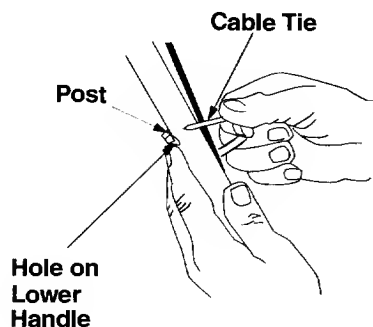

Figure 4
- Insert post on cable ties into holes provided on the lower handle. Pull the cable tie tight and trim the excess. See Figure 4 .